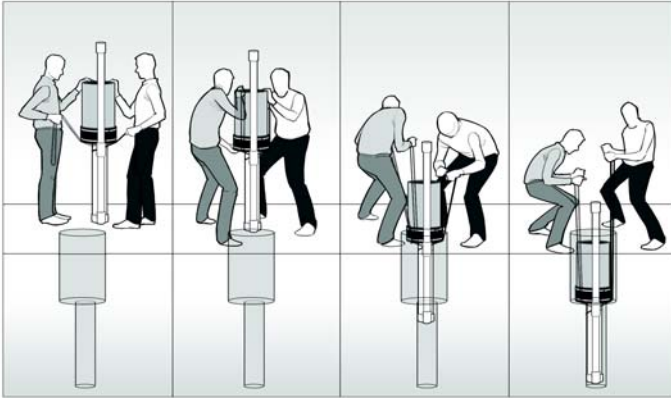

Figure 4: How to safely lower the Drain Gauge into the installation hole.
1. Loop a length of heavy rope or strap below the fitting connecting the reservoir section to the access tube immediately below the junction between the DCT and reservoir section (See figure 4 below).